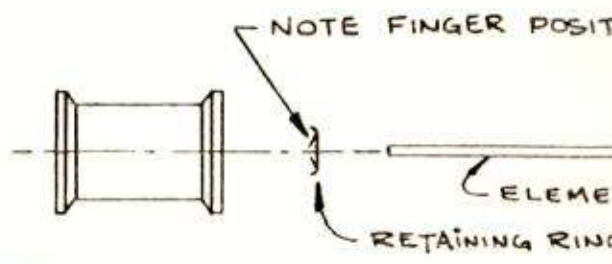

Figure 2
- A. See figure 2. Insert a retaining ring into the shallow recess at the end of the spool - RETAINING RING FINGERS MUST POINT TOWARD SPOOL as shown. With one tip of element bearing against a stationary work surface, push retaining ring onto element with spool until ring is even with scribed line on element as shown in figure 3.